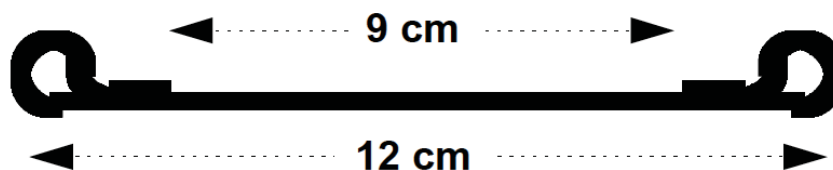

Figure 11.1: Detail of the single length of rubber band with looped ends for attachment to the transducer and strain gauge.
7. You are now in a position to prepare a fresh length of rubber band. Some rubber bands that have been cut so you can test a single length of rubber instead of a doubled loop may be ready on the bench. If not, cut a rubber band and form loops at the ends, so that the overall length is within a couple of millimetres of 12 cm (see Figure 11.1 for guidance). Fix the loops with a small stapler or superglue. Throw any broken rubber bands away.